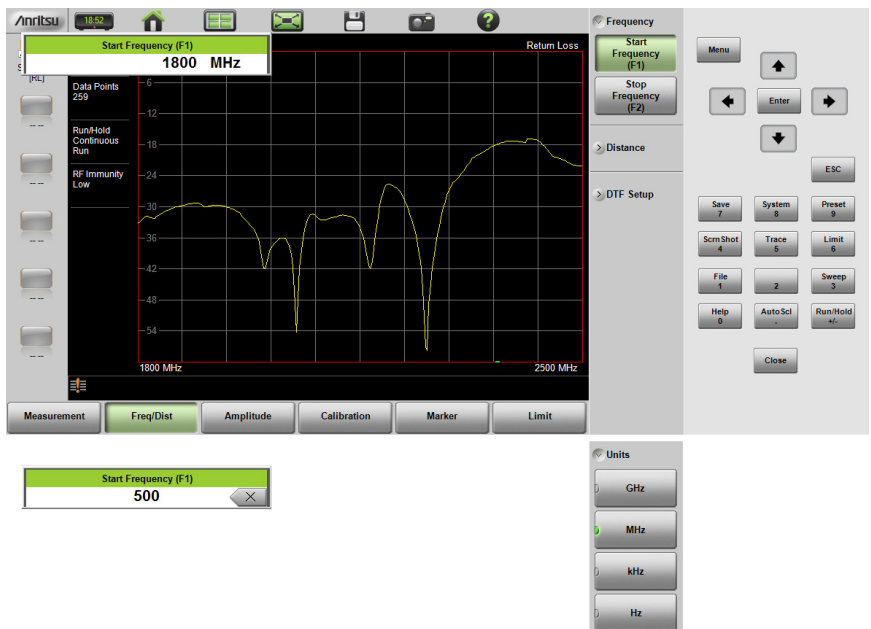

Figure 3-22. Entering Frequency Setting
2. Press the Start Frequency submenu key and use the virtual keypad to enter the value in the edit box. See Figure 3-22.